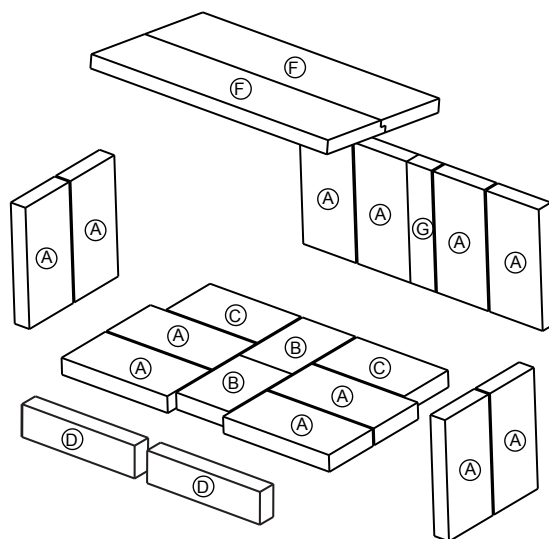

Fig. 1
- A.** Install the four (A) bricks, two (B) bricks and two (C) bricks, working from the back of the appliance forward as illustrated (**Fig. 1**).
- B.** Install two (A) bricks along both sides of the appliance. Install the four (A) bricks and one (G) brick along the back wall by pivoting the bricks up under the brick retainer (**Fig. 1**).
- D.** Install the two (D) bricks along the front (**Fig. 1**).